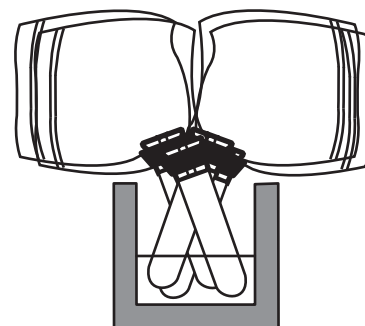

Figure 4.
6. Place the test tubes all together in the container so that they extend down into the liquid nitrogen and their bags hang out over the top of the container (see Figure 4).